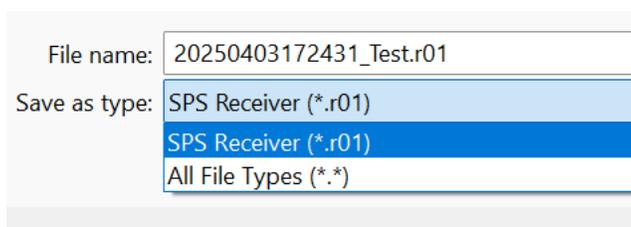

FIGURE 120 SAVE FILE FILTER RESULT EXAMPLE
- **Save File Format Filter:** The Save File Format Filter is used when saving the output files. This is a customizable string which is parsed to create options in the Save File dialog for the output data, see Figure 120.